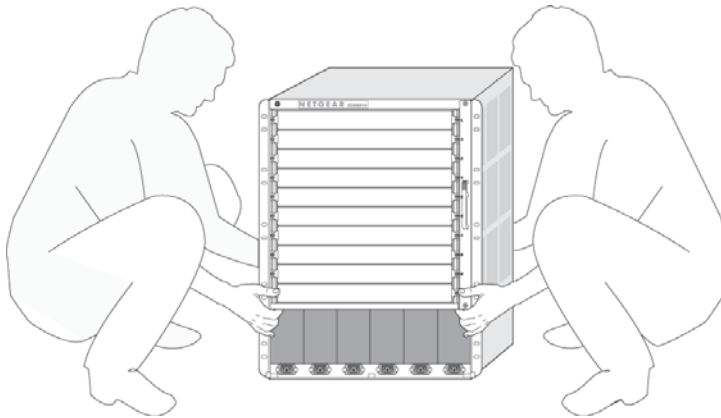

Figure 70. Correct method for lifting the XCM8810 Chassis
5. On each side of the chassis, place one hand in the empty power supply bay and the other hand in the recessed hand-hold on the back panel of the chassis (see Figure 70).